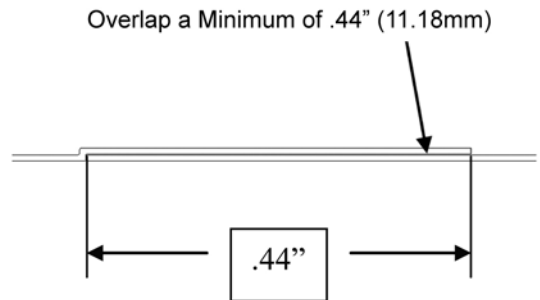

Figure 13 : Overlap of gasket tape
b) After the gasket tape has been placed around the entire circumference, overlap the starting end of the tape by a minimum of 0.44" (11.2 mm). See **Figure 13**.